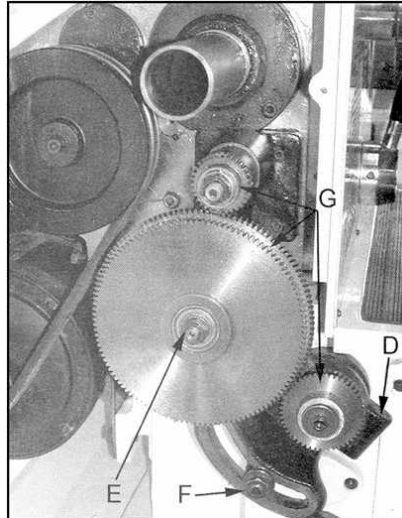

Fig 18
-Loosen screw (D, Fig 18) and hex nut (F) to disengage the quadrant.